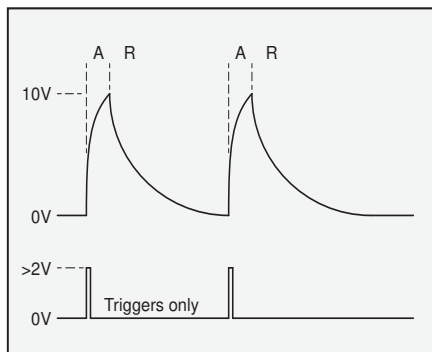

Fig.20. ADSR in trigger mode.
- Mode switch for selecting either trigger or gate operation. In trigger mode, the rising edge of the trigger pulse creates an envelope consisting only of the attack and release elements (Fig.20).